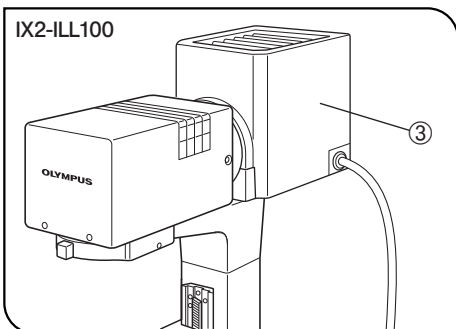

Fig. 3
7. To avoid potential shock hazards and burns when replacing the light bulb, set the main switch to "○" (OFF) then disconnect the power cord from the wall outlet in advance. Whenever you replace the bulb during use or right after use, allow the lamp housing ③ and bulb to cool before touching. (Fig. 3)